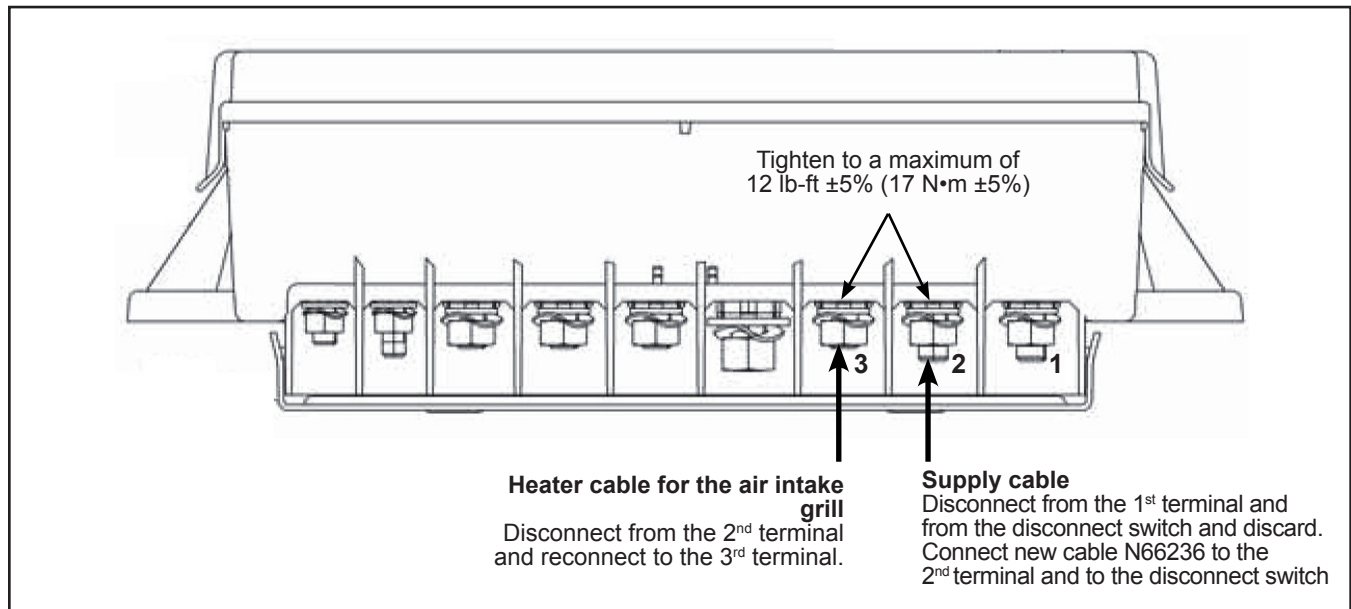

Figure 7 - Tightening Torque of the Power Distribution Box Terminals
- 1.18. Connect the new cable N66236 to the battery disconnect switch and to the second terminal from the right of the power distribution box. Apply a torque as indicated in Figure 7.
NOTE: If a heater cable for the air intake grill is installed, then disconnect the heater cable that is connected to terminal # 2 from the right of the power distribution box, and reconnect it to terminal # 3. Apply a torque as indicated in Figure 7.